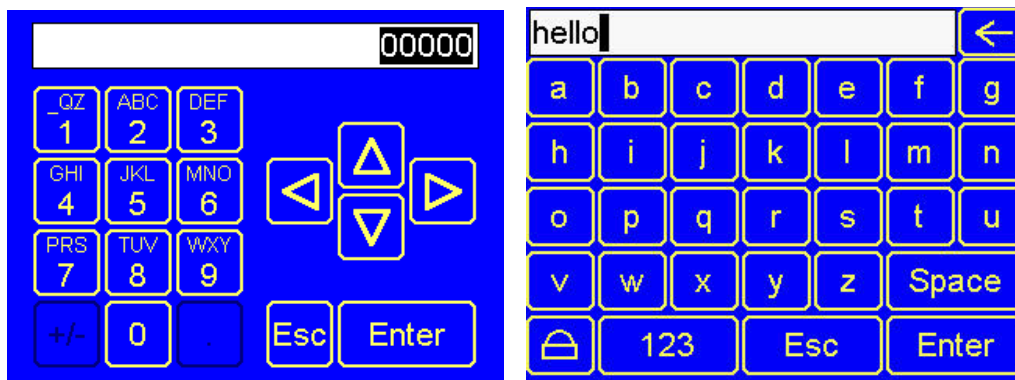

Figure 14.2 - Alpha-numeric Keypad and ASCII Keypad
To allow entry of a specific number or text, several of the input objects invoke a pop-up alpha-numeric keypad when the object is touched. An example of the alpha-numeric keypad invoked from a numeric input object is shown below in Figure 14.2. Once invoked, the operator may touch the appropriate keys to enter a specific value. When entering a value, the alpha-numeric keypad is in one of two modes [new-value or edit-value].
When editing an ASCII value, an ASCII keypad is displayed as shown Figure 14.2. The ASCII keypad has three (3) modes: numeric, symbols, and alpha. In Alpha mode, the Caps Lock button may be pressed to access capital letters. When you first enter this editor typing, a character will overwrite the entire old string and start a new entry. You may press the back space arrow to delete the previous character. Pressing Enter will save the entry; pressing ESC will cancel the edit and return the string to the previous value.